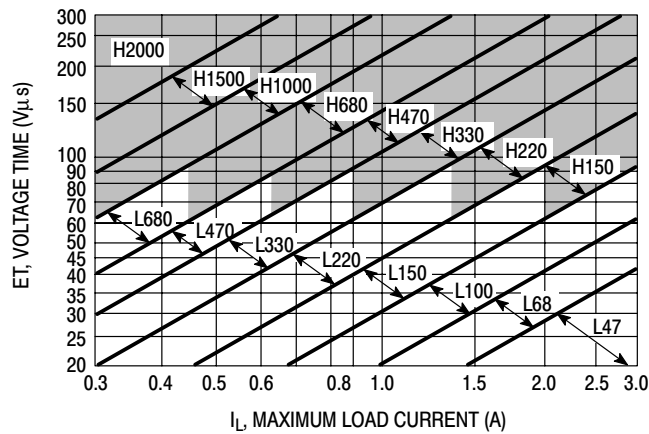

Figure 22. LM2576-ADJ
4. Inductor Selection (L₁) A. Use the following formula to calculate the inductor Volt x microsecond [V x μs] constant: $E \times T = (V_{in} - V_{out}) \frac{V_{out}}{V_{in}} \times \frac{10^6}{F[\text{Hz}]} \text{ [V x } \mu\text{s]}$ B. Match the calculated E x T value with the corresponding number on the vertical axis of the Inductor Value Selection Guide shown in Figure 22. This E x T constant is a measure of the energy handling capability of an inductor and is dependent upon the type of core, the core area, the number of turns, and the duty cycle. C. Next step is to identify the inductance region intersected by the E x T value and the maximum load current value on the horizontal axis shown in Figure 25. D. From the inductor code, identify the inductor value. Then select an appropriate inductor from Table 2. The inductor chosen must be rated for a switching frequency of 52 kHz and for a current rating of $1.15 \times I_{Load}$. The inductor current rating can also be determined by calculating the inductor peak current: $I_{p(\text{max})} = I_{Load(\text{max})} + \frac{(V_{in} - V_{out}) t_{on}}{2L}$ where t_{on} is the “on” time of the power switch and $t_{on} = \frac{V_{out}}{V_{in}} \times \frac{1.0}{f_{osc}}$ For additional information about the inductor, see the inductor section in the “External Components” section of this data sheet.	4. Inductor Selection (L₁) A. Calculate E x T [V x μs] constant: $E \times T = (25 - 8.0) \times \frac{8.0}{25} \times \frac{1000}{52} = 80 \text{ [V x } \mu\text{s]}$ B. E x T = 80 [V x μs] C. $I_{Load(\text{max})} = 2.5 \text{ A}$ Inductance Region = H150 D. Proper inductor value = 150 μH Choose the inductor from Table 2.